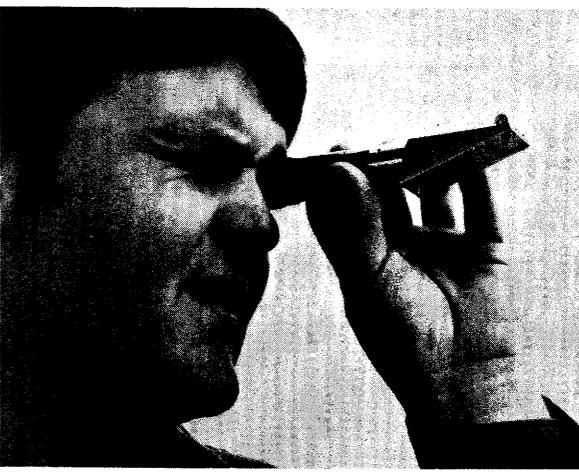

Figure 4.—Using a refractometer to measure the sap sugar concentration.
4. Observe the sap-sugar concentration value on the refractometer scale viewed through the eyepiece (fig. 4). The sugar content can be read to the nearest 0.1 percent.